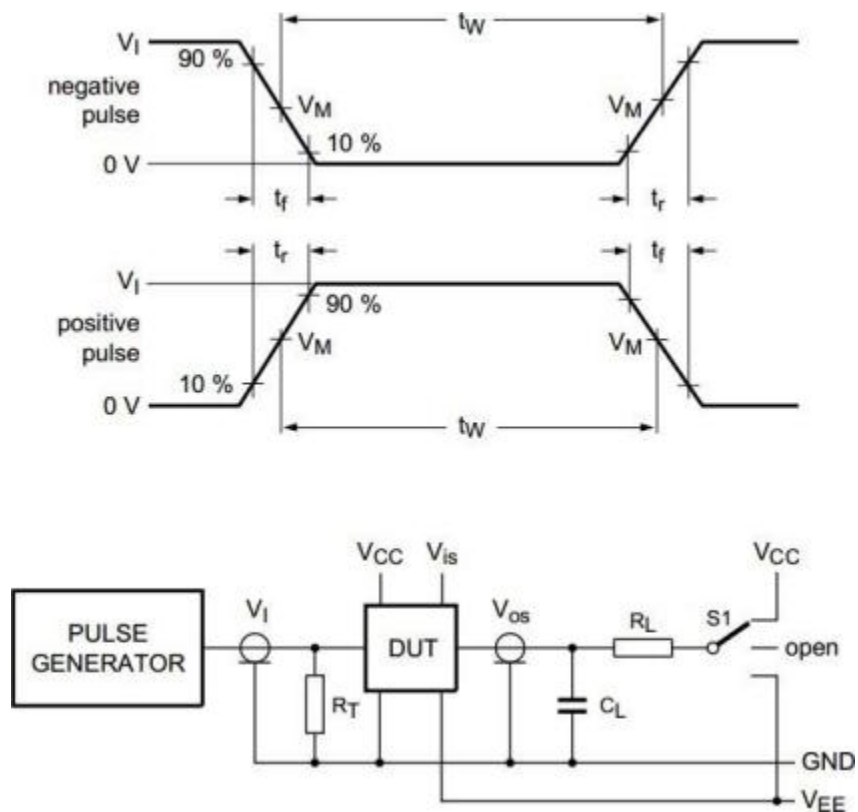

Figure 11. Test circuit for measuring switching times
[5] For test circuit see Figure 11.
- [5] For test circuit see Figure 11.